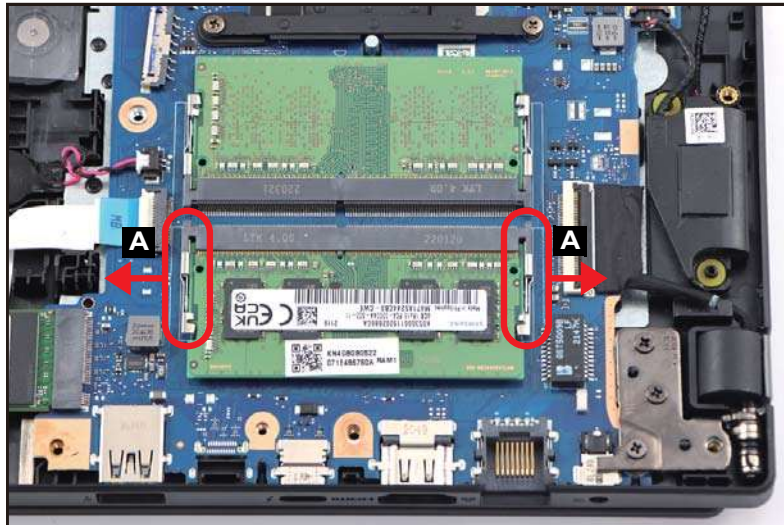

Figure 3-20. DIMM Modules Removal
1. Push the DIMM module clips (A) outwards (Figure 3-20).